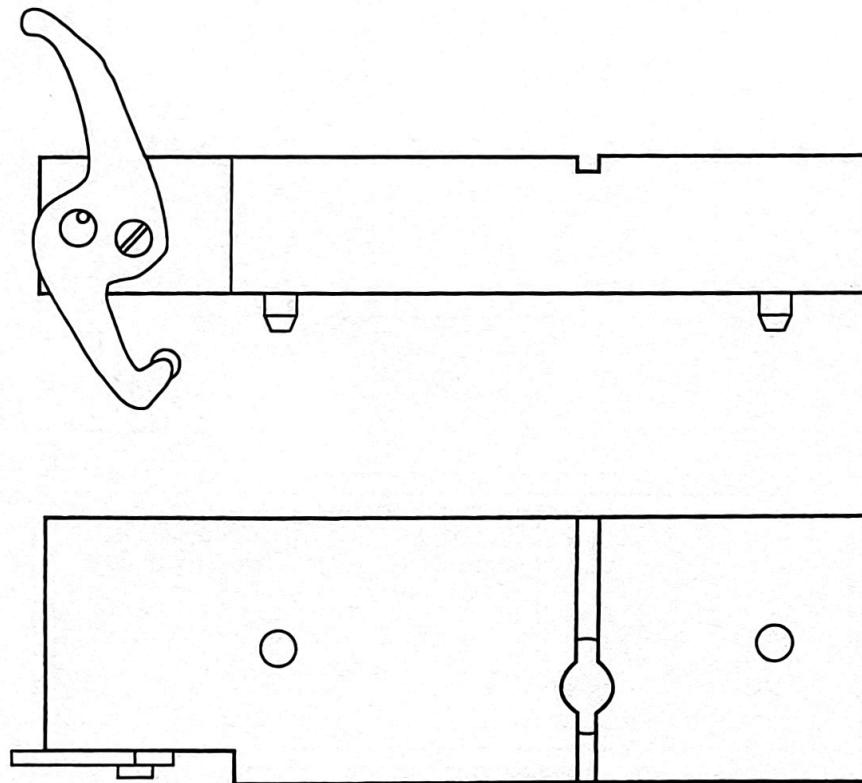

Fig 4-49
(1) External diagram --- See Fig 4-49
(2) Description of function